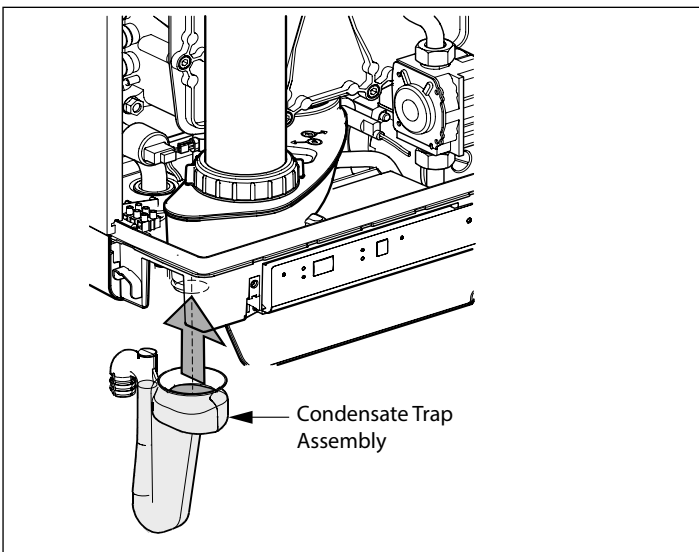

Fig. 1: Condensate Drain Trap Installation
1. Ensure condensate drain trap assembly is firmly secured to the bottom of the heat exchanger/unit as shown in Fig. 1 on page 7.